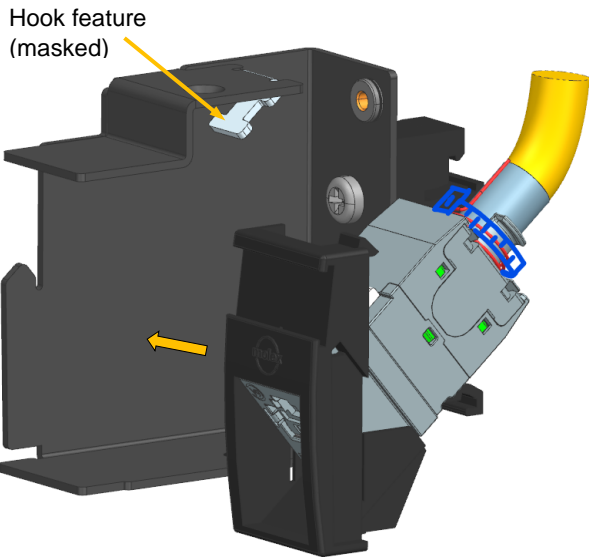

Fig. 3E
- Slide down the angled fascia module with jack assembly into the base (Fig 3E).